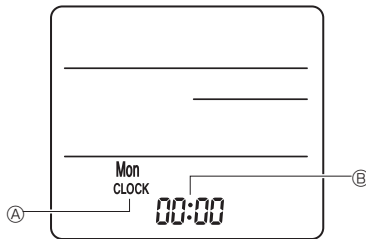

Fig. 6-8
3) Setting (Clock setting) (Fig. 6-8)
① Insert batteries or press the **CLOCK** button with something sharp.